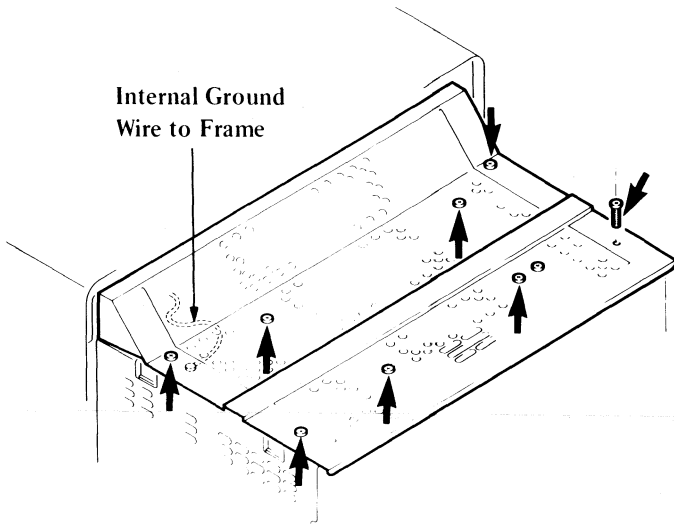

Figure 5-52. Safety Cage – Top Cover Lockscrews and Grounding Wire
5. Remove the screws shown in Figure 5-52 on page 5-78 and remove the top cover.